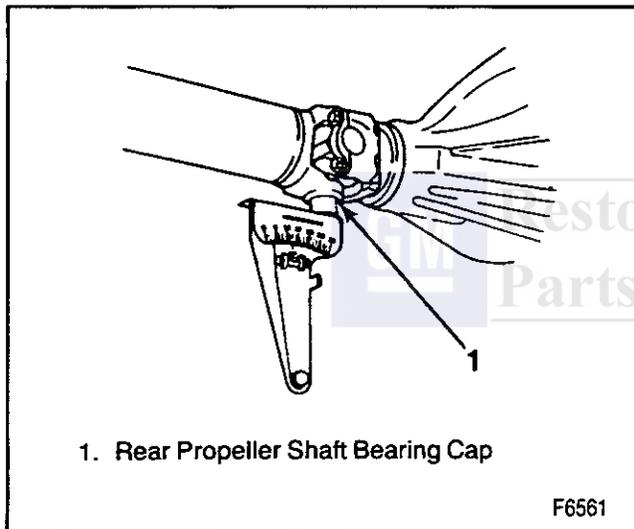

Figure 24—Measuring Rear U-Joint Working Angle
1. Place inclinometer J 23498-A on rear propeller shaft bearing cap (figure 24). Center the bubble in the sight glass and record the measurement. The bearing cap must be straight up and down and free of dirt or other foreign material to obtain an accurate measurement.